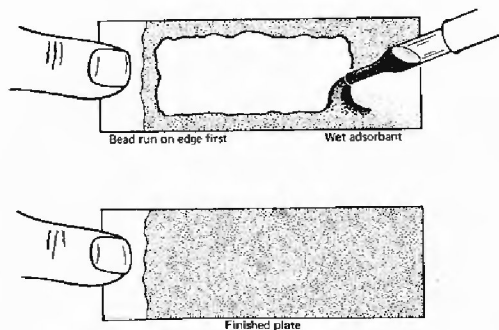

Fig. 118 Spreading adsorbent on a TLC plate.
5. Run a bead of mix around the outside of the slide, and then fill the remaining clear space. Leave $\frac{1}{4}$ inch of the slide blank on one end, so you can hold onto the slide. *Immediately* tap the slide from the bottom to smooth the mix out (Fig. 118). Repeat this procedure with as many slides as you can. If the mix sots up and becomes unmanageable, add a little water and shake well.